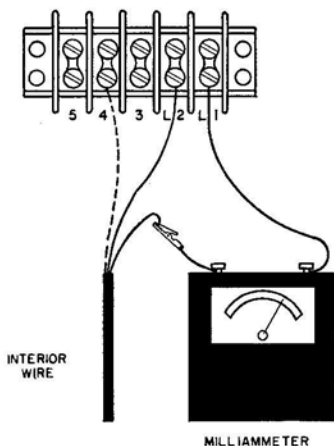

Figure 26.
14.2 **Without assistance from the central office.** With the telephone housing removed, transfer line-wire from terminal-strip terminal L1 to a milliammeter, and connect the milliammeter other post to terminal L1 (figure 26). Remove the handset from the hook, and vary the loop compensator until the milliammeter reads 60 milliamperes.